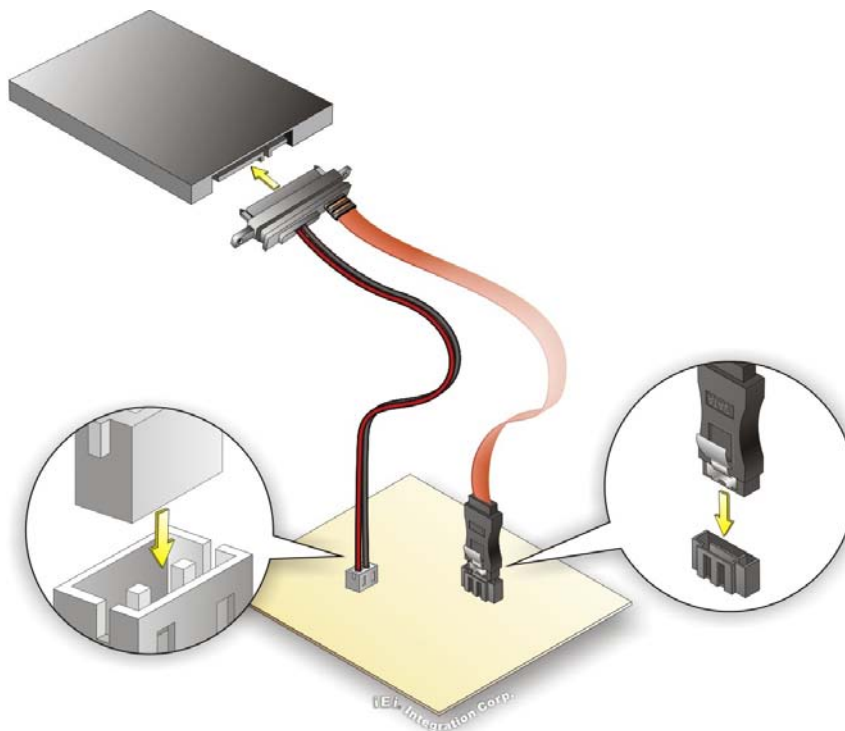

Figure 4-2: SATA Drive Cable Connection
Step 2: **Insert the cable connector.** Insert the cable connector into the on-board SATA drive connector and the SATA power connector. See **Figure 4-2**.
Step 3: **Connect the cable to the SATA disk.** Connect the connector on the other end of the cable to the connector at the back of the SATA drive. See **Figure 4-2**.